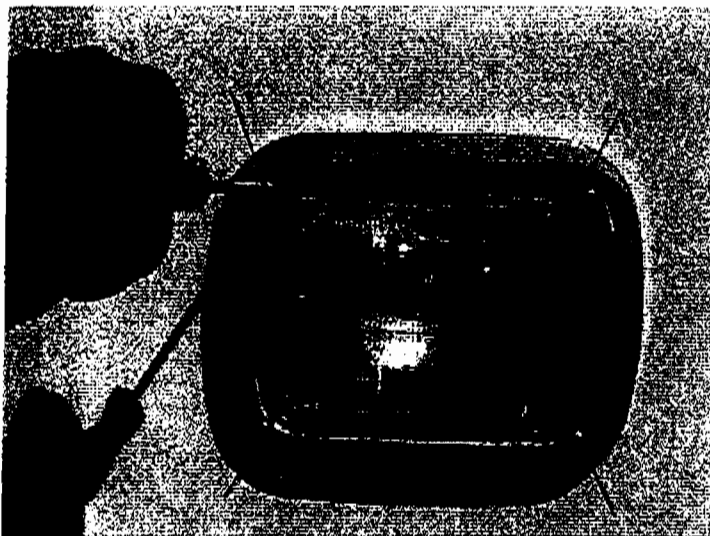

Figure 10. Remove headlight bezel.
1. Remove the headlight bezel held in place by (4) screws and set aside. Figure 10.